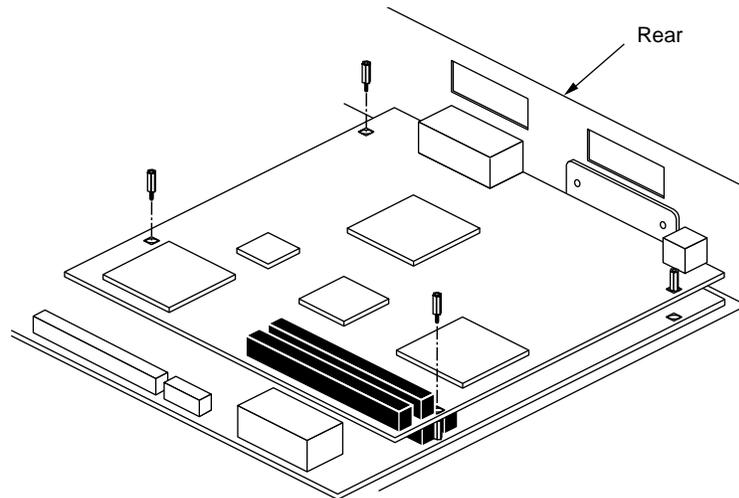

Figure 1-15 Removing the Standoff Screws From the Z Board
4. Using an open-ended wrench, remove the three standoff screws from the Z board, as shown in Figure 1-15.